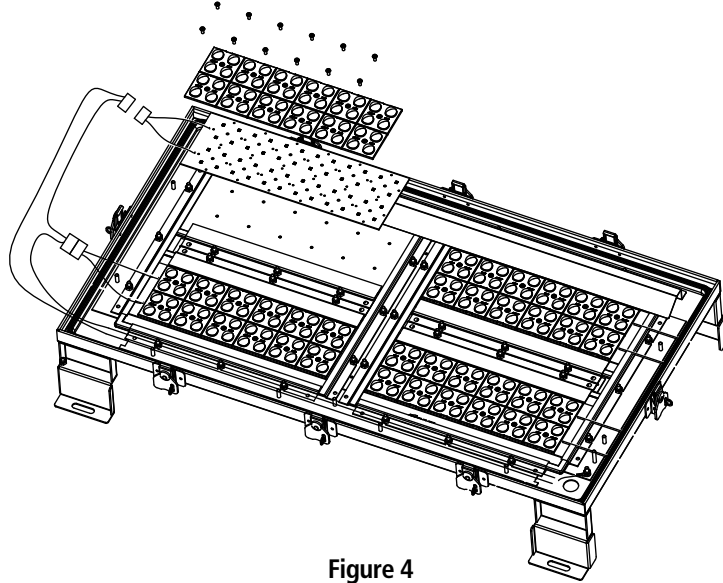

Figure 4
3. Remove screws securing LED module. See Figure 4.